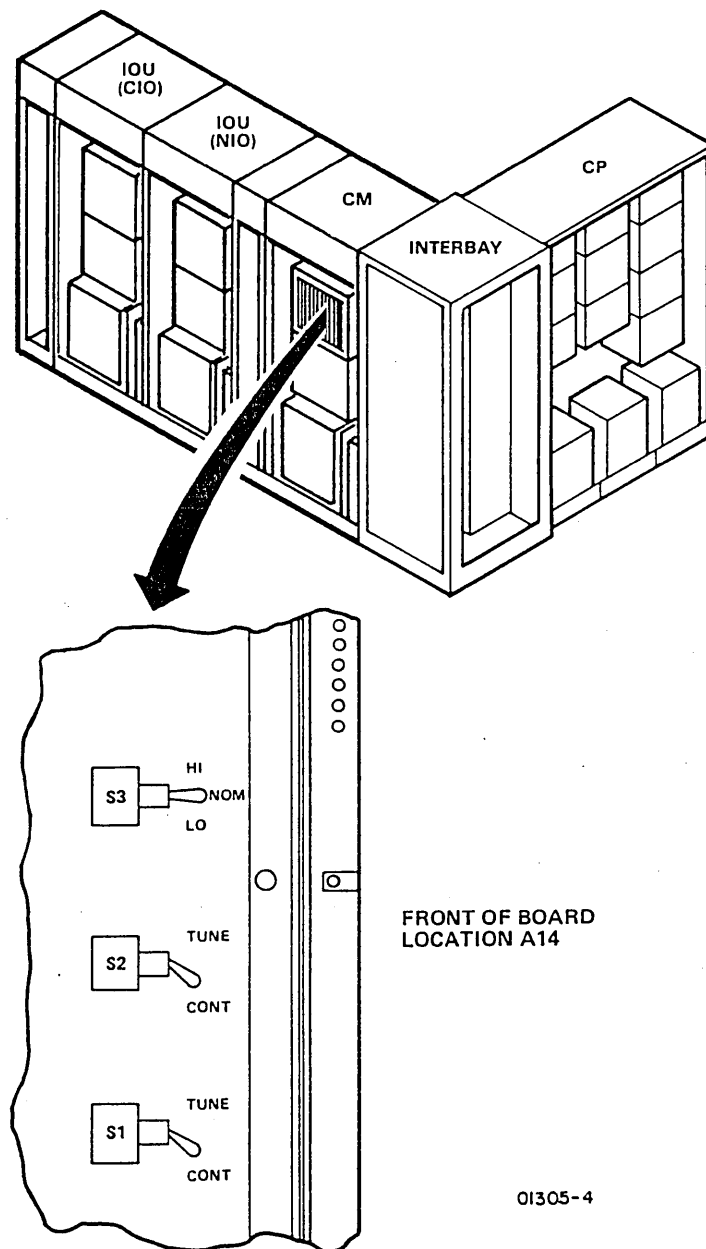

Figure 6-1. Master Oscillator Switch Locations
- ___ 2. Verify that switches on the master oscillator board at CM location A14 (figure 6-1) are set as follows: